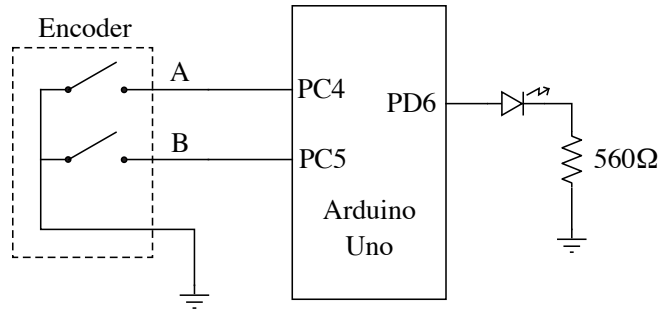

Figure 1: Rotary encoder controlling generation of a PWM signal
5. If all looks correct, hook the D6 output pin to the LED according the schematic in Fig. 1 and see if it works. You should be able to adjust the LED brightness from full off to full on by turning the encoder knob.